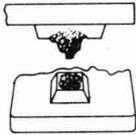
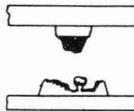

FIG. 23
FIG. 26
5.02 *Buildups:* Buildups assume various forms as shown in Fig. 23 to 26, inclusive, which illustrate some of the types encountered on relays. If necessary, remove buildups as covered in 5.05 to 5.07, and 5.09. Buildups in pits similar
to the one on the lower contact in Fig. 26 cannot, however, be removed by this method. In this case, recondition the contact as covered in 5.08. Sharp-pointed buildups similar to the one shown in Fig. 23 may result in the mechanical locking of the contacts in the operated or closed positions.